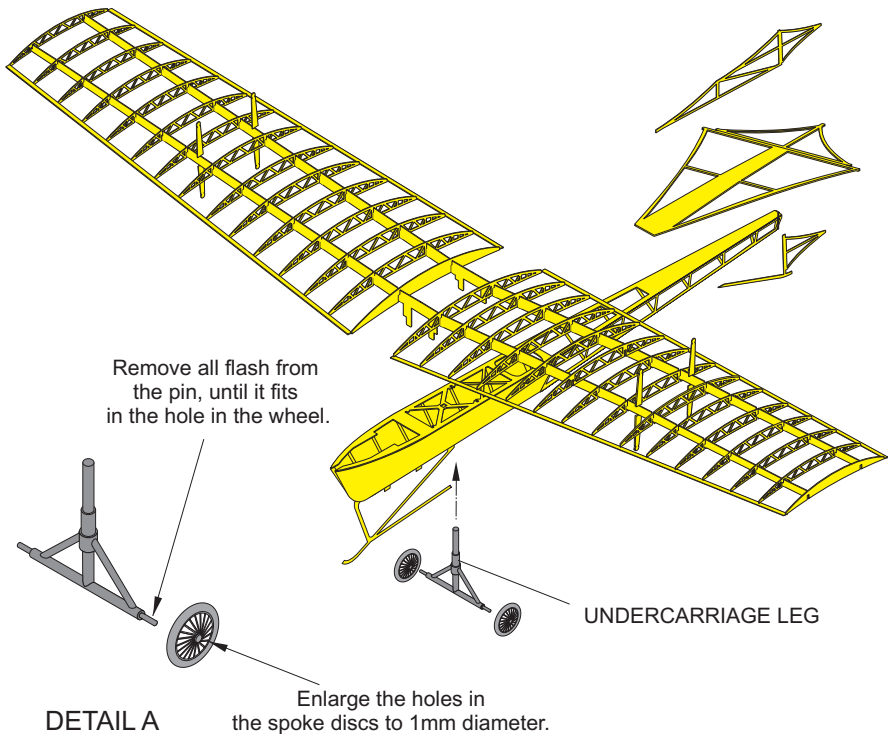

Figure 6
- (3) Remove all flash from the pin at each end of the axle on the landing gear leg. Trim these pins until they will fit into the holes in the spoke discs on each wheel as shown in Detail A of Figure 6.
- (4) Apply epoxy adhesive to the undercarriage leg, then put the leg into the hole in the fuselage. Make sure that the leg is aligned correctly, then leave the assembly until the adhesive has cured as shown in Detail A of Figure 6
- (5) Attach the wheels to the undercarriage leg with epoxy adhesive, align the wheels correctly, then leave the assembly until the adhesive has cured.